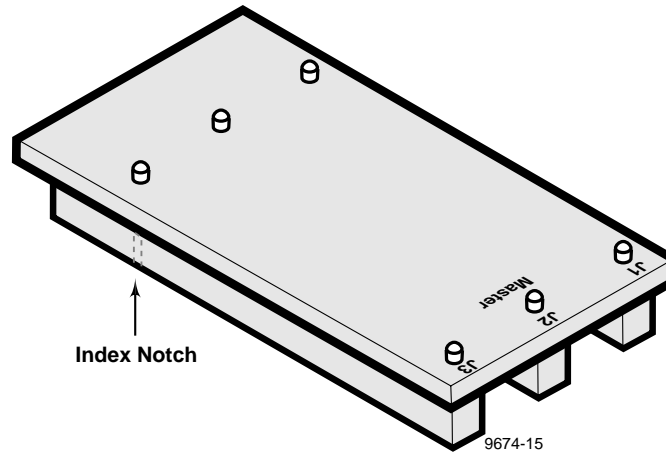

Figure 6-23. PCI Board
The three PCI board connectors (Figure 6-23) are keyed to ensure correct orientation and the bottom of the board (which faces up when installed) identifies the connectors as J1, J2, and J3. J2 is further identified as **MASTER**. Note that the SCSI cables to the EDR boards must be connected prior to installation of the PCI board.
1. Hold the PCI with the connectors pointing down and the connector identifications towards the rear of the Profile chassis (Figure 6-23).